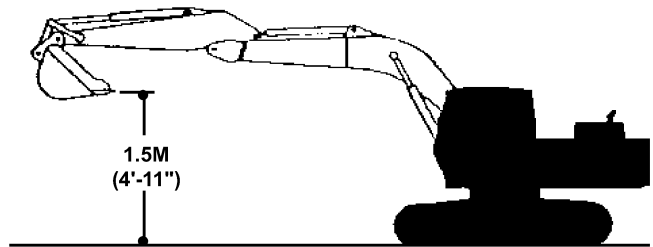

FIGURE 4.10
4. Adjust the boom up or down until bucket teeth are 1.5m (4'-11") from ground level. See Figure 4.10.